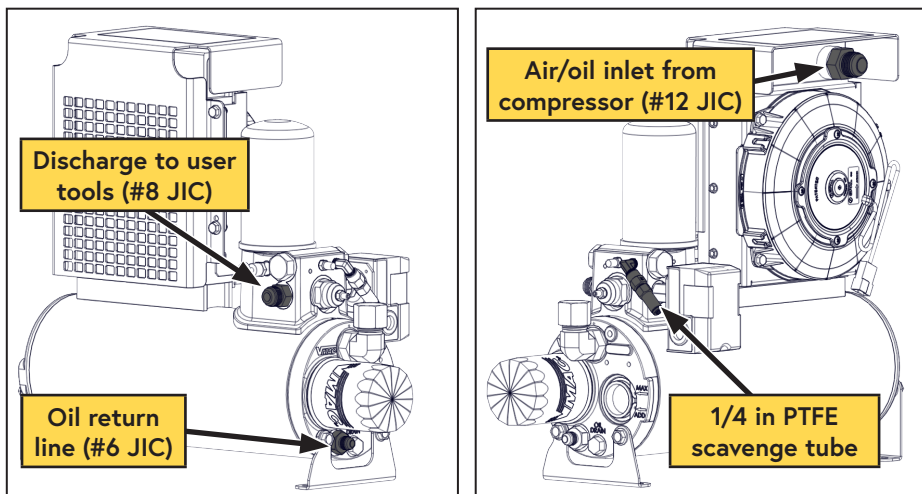

Figure 23 — WHASP Tank connections
Connecting the Interior Hoses (Figure 23)
- Connect the 90° fitting on the 3/4 in hose to the #12 JIC fitting (air/oil inlet) on the cooler above the fan (Figure 23).
- Connect the 90° fitting on the 3/8 hose to the #6 JIC fitting (oil return fitting) beneath the oil filter on the tank (Figure 23).
- Connect the 1/4 in PTFE tube to the 1/4 in push-to-connect (oil scavenge) fitting near the coalescing filter (Figure 23).